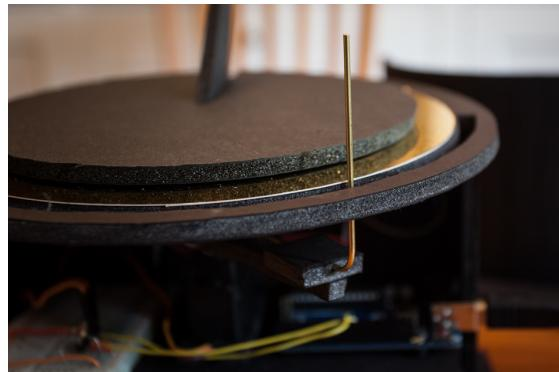

Figure 7-16 Alignment of the azimuth arm through the main disks
6. Attach the arm to the servo and then align the base disk on the base. The wire should poke up through the track in the base disk (Figure 7-16).